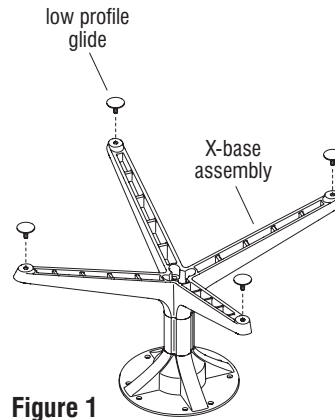

Figure 1
1. Carefully place the X-base assembly upside down on a soft, protective surface (Figure 1).
2. Thread the stem of each glide into a threaded insert at the underside of each foot by hand (Figure 1).